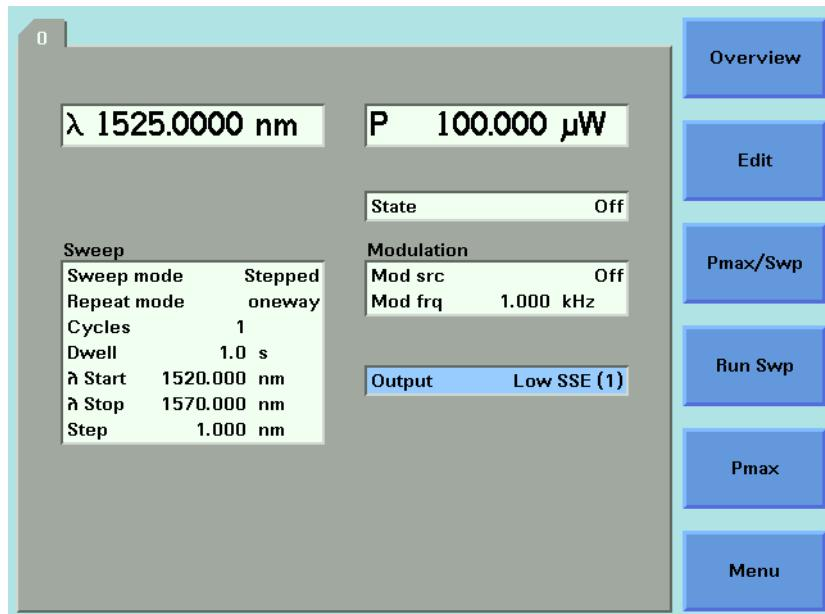

Figure 64 Setting Low SSE parameter
- <*Low SSE (1)*>, a lower power optical output with low Source Spontaneous Emission (SSE), for example, for use in passive component test, you see a screen similar to Figure 64 ,
If you enable the laser output for a module with two optical outputs by pressing the *Active* hardkey on the module's front panel, you automatically choose the optical output for that module. For example, if you press the *Active* hardkey beside Output 1, the Low SSE optical output, you choose <Low SSE> as the optical output, the LED beside the Output 1 lights constantly, and you see the screen in Figure 64 .